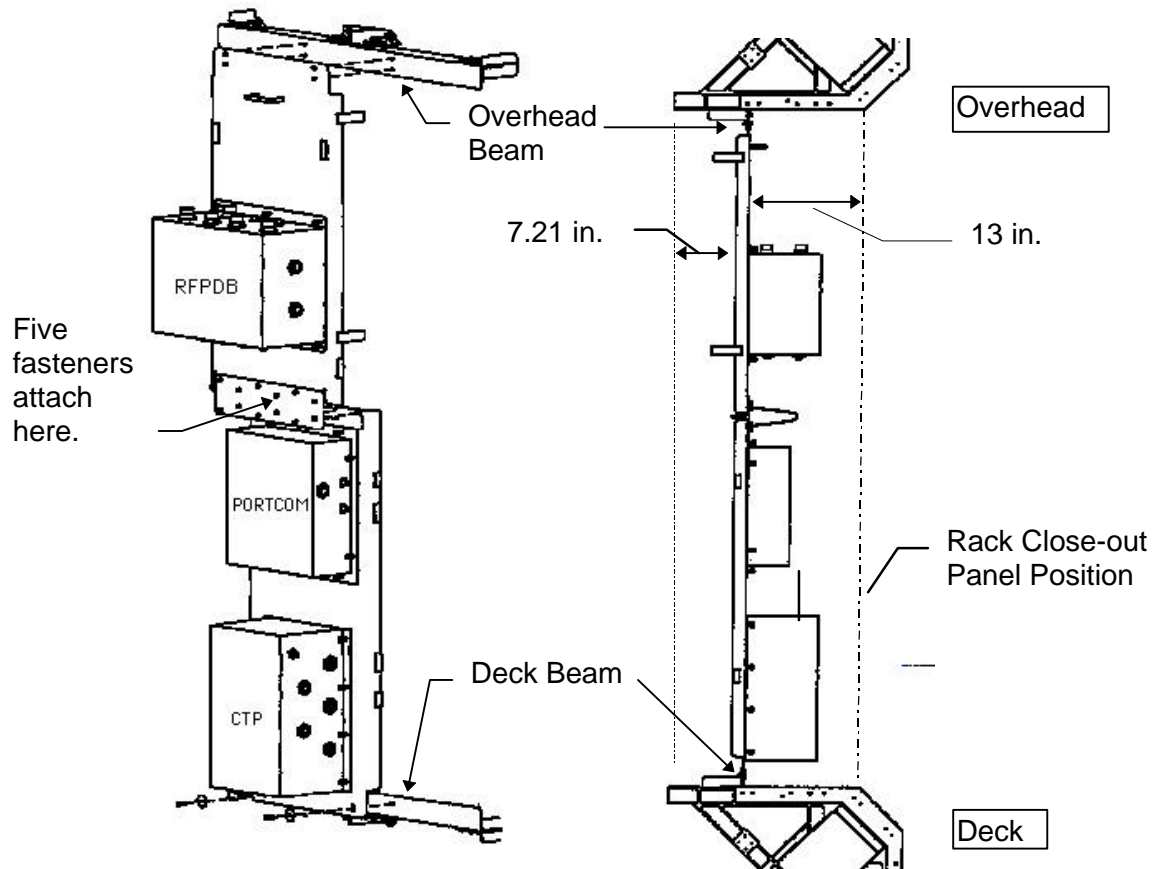

Figure 2.- Exploded and installed side view of Early Comm assembly.
8. Attach RF Power Dist Box (RFPDB) plate to the PORTCOM/CTP plate, tighten fasteners (five), (Ratchet 1/4" Drive, 1/4" to 3/8" Adapter, 3/16" Hex Head Driver, 3/8" Drive, 6" Extension). See Figure 2.
9. Attach RFPDB end of plate assembly to Overhead beam. Snug fasteners (four) (Ratchet 1/4" Drive, 1/4" to 3/8" Adapter, 3/16" Hex Head Driver, 3/8" Drive, 6" and 4" Extension). See Figure 2.
11. Attach PORTCOM/CTP end of plate assembly to Deck beam and snug bolts (two) (Ratchet 1/4" Drive, 1/4" to 3/8" Adapter, 7/16" Socket, 6" and 4" Extension). See Figure 2.